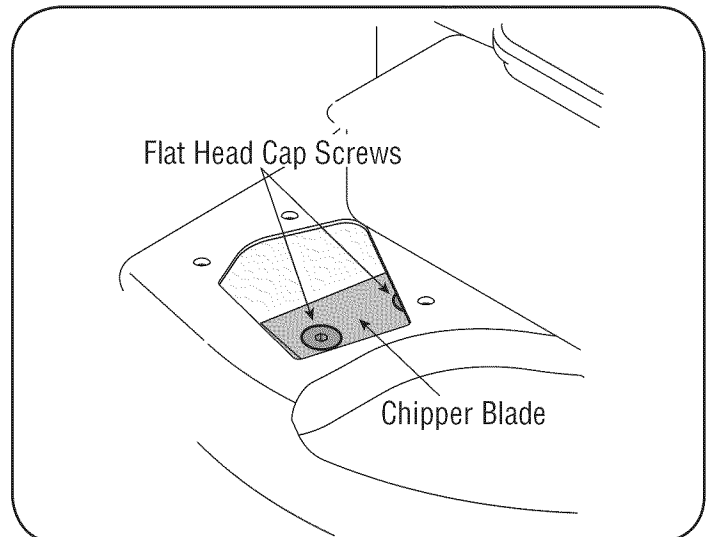

Figure 28
9. Using a 3/16" allen wrench, remove the flat head cap screws that hold the chipper blade to the impeller. These screws are accessible through the opening created when the chipper chute was removed earlier. See Figure 28.